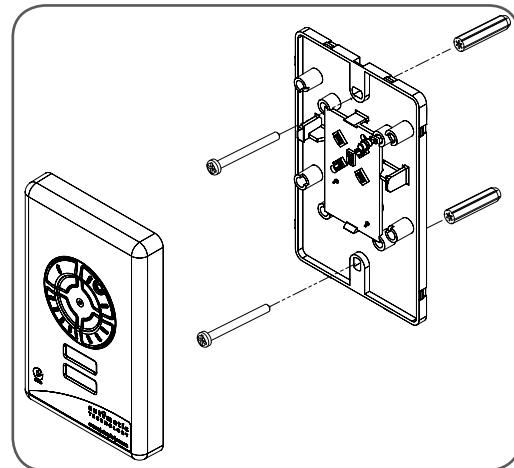

fig 64
- Affix the base plate at a height of 1.5 metres within sight of the door. Make sure that the position of the transmitter is out of reach of children and convenient to the customer (Fig. 64).